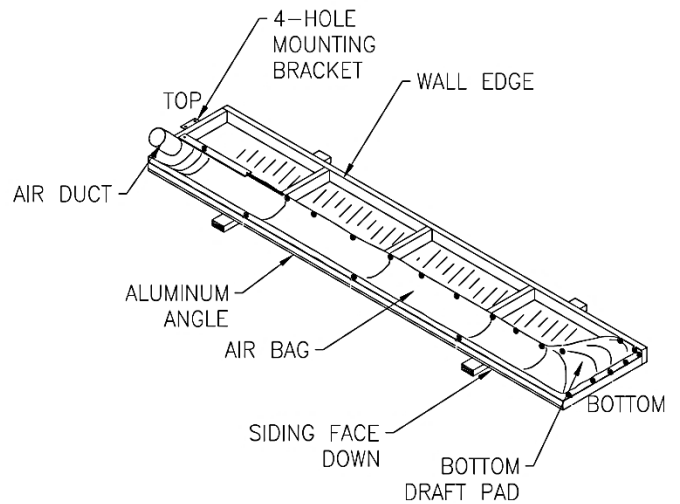

FIG. 4
- * Air Duct is at the top front of each Vertical Frame (Figure 4).
b. **Position 4-hole Angle Bracket** on Vertical Frame (Figure 4).